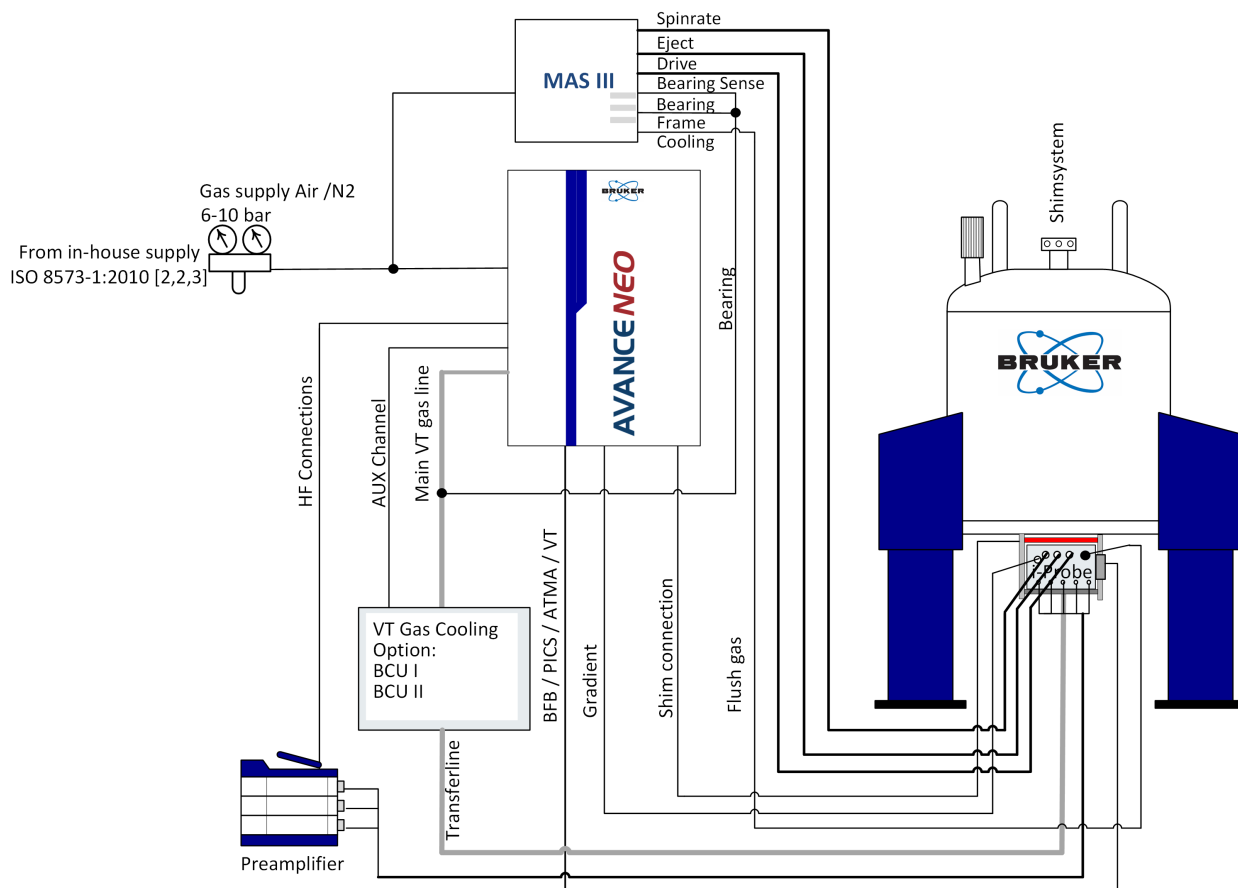

Figure 5.2: Diagram of a setup with iProbe HR-MAS
The iProbe HR-MAS uses only four pneumatic connections from the MAS Unit: Drive, Eject, Bearing and Frame Flush. Bearing is connected to the VT-gas line using a T-piece and Bearing Sens must branch off to the output of Bearing (see [Figure 5.2 \[▶ 18\]](#) for the system overview and [Installation of iProbe HR-MAS \[▶ 25\]](#) for the details of the installation).
- Connect the gradient (1), drive (2), eject (3), spinning rate (4), the flush gas (5), the BFB-cable (6) (Bruker Field Bus coming from the BVT) and the RF-cables (7).
- The Bearing gas line must be connected to the Main VT-gas line (1) using a T-piece (2). Finally, the output of Bearing should branch off to Bearing Sens with another T-piece according to [Figure 5.2 \[18\]](#).